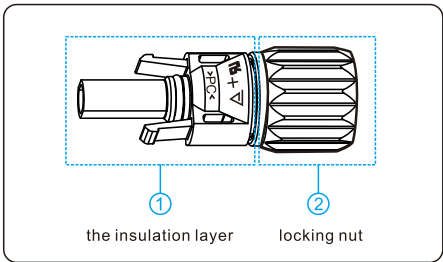
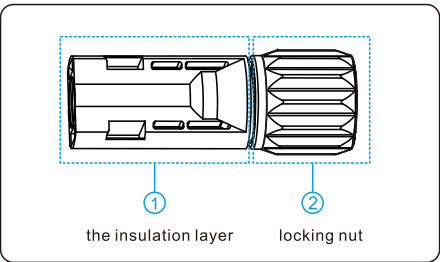

Figure 5.6 Positive connector compositions
Figure 5.7 Negative connector compositions
- Connectors of PV Strings: Positive and negative DC input connectors are used, as shown in Figure 5.6 and Figure 5.7.